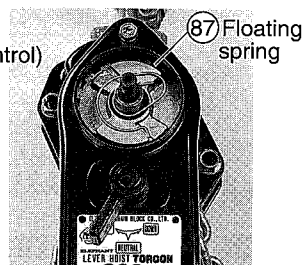

Fig. 3
3. Insert the floating spring (87) into the device as Fig. 3 shows.